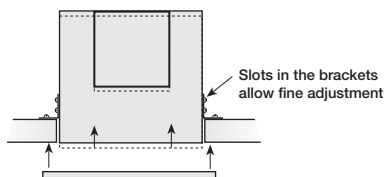

Figure 5
4. Position unit between joists. Position brackets such that bottom edge of housing will be flush with finished ceiling, and tighten the adjustable mounting brackets, refer to Figure 5.